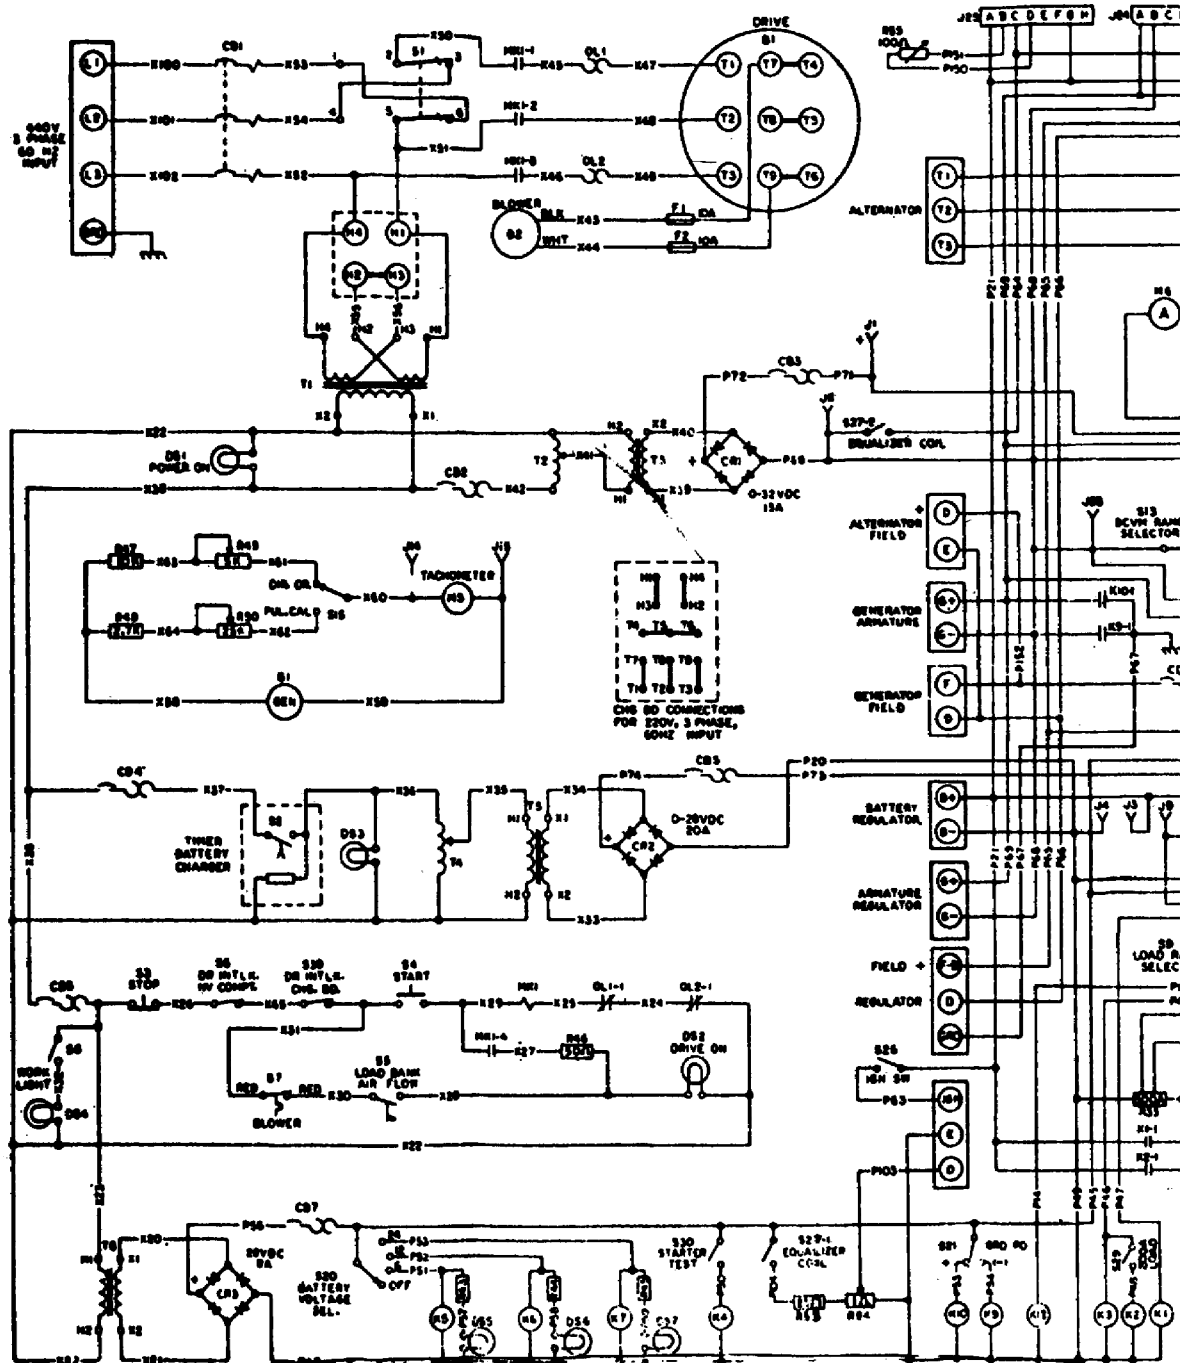

Figure 11. Electrical wiring diagram.
g. What you have learned about basic DC voltmeters and ammeters apply directly to five of the seven test stand metering circuits (fig 11). M1 through M5 on the schematic are representations of meter movements similar to the one discussed. Organizational maintenance personnel should be able to state the probable cause of a malfunction in meter circuits M1 through M5. Supervisors should check to insure that the reporting of malfunctions is as specific as possible. Specific reporting of malfunctions will help the repairman to quickly return the equipment to a serviceable condition.
8. ELECTRICAL WIRING DIAGRAM ANALYSIS (FIGURE 11).